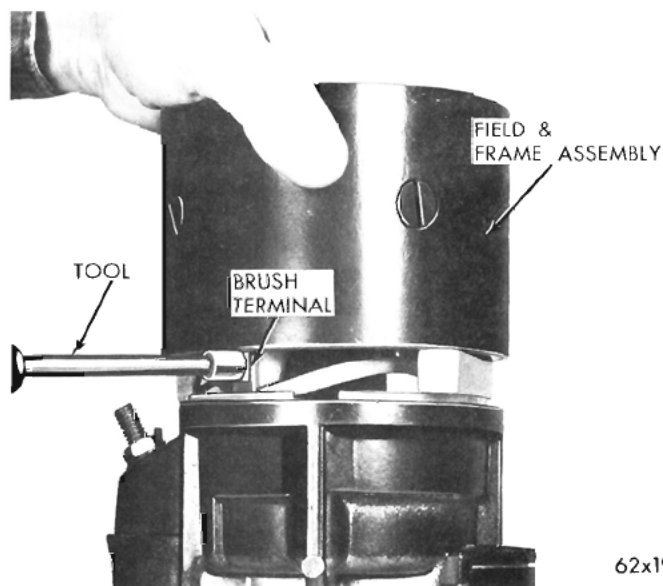
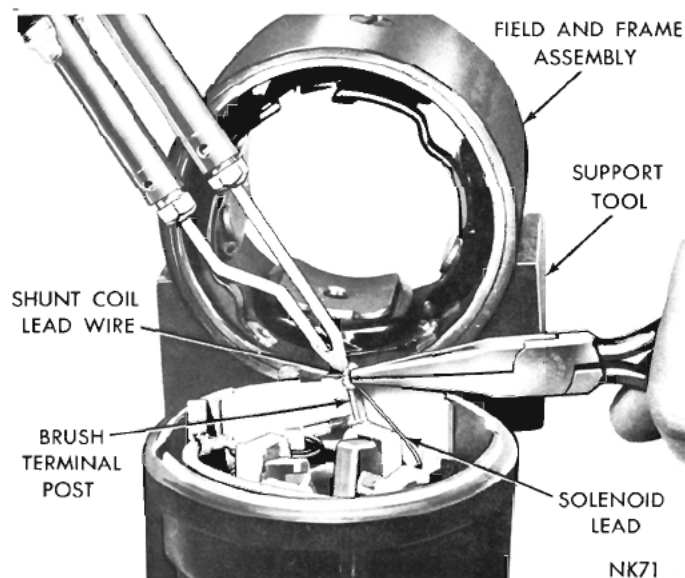

Fig. 2—Removing or Installing Brush Terminal Screw
Fig. 3—Unsoldering the Shunt Coil Lead Wire
- ected to this terminal. The other pair of brushes is attached to the series field coils by means of a terminal screw. Carefully pull the frame and field assembly up just enough to expose the terminal screw and solder connection of the shunt field at the brush terminal. Place two wood blocks between the starter frame and starter gear housing to facilitate removal of the terminal screw, Fig. 2.
- (4) Support the brush terminal by placing a finger behind the terminal and remove the terminal screw.
- (5) Unsolder the shunt field coil lead from the starter brush terminal, Fig. 3. The 4 series coil starters do not have a wire soldered at the brush terminal.